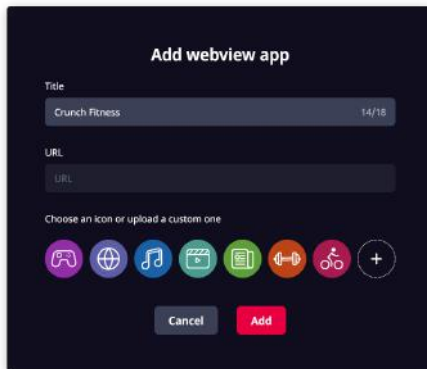

Fig. 66
4. Tap **Title** and **URL** boxes (Fig. 66 on page 40) to enter the webview app name and URL.